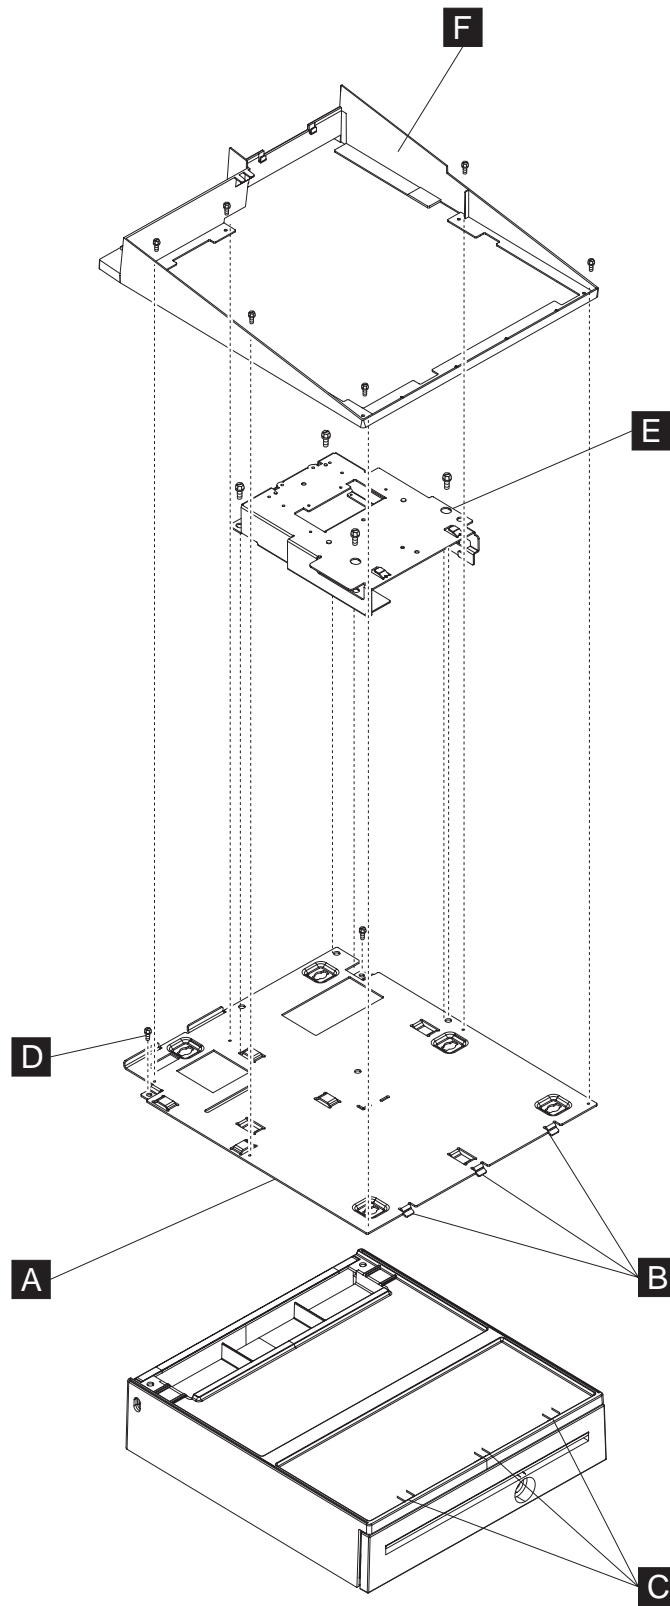

Figure 67. Installing the keyboard-integration tray on a cash drawer
- a. Tilt the integration tray down so the three tabs **B** align with the three tab holes **C** on the cash drawer as shown in Figure 67 on page 103. Set the integration tray down on the cash drawer while aligning the screw holes **D** with holes on the cash drawer.
1. Attach the mounting plate **E** to the integration tray with four plastic washers and screws as shown in Figure 67 on page 103.